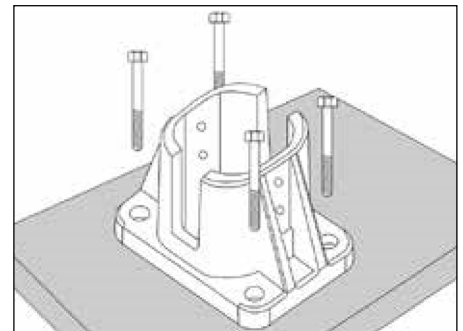

Figure 2
- E.** Re-position the base foot (**72BFG**) and secure with the four anchor sleeves provided. See **Figure 2**.